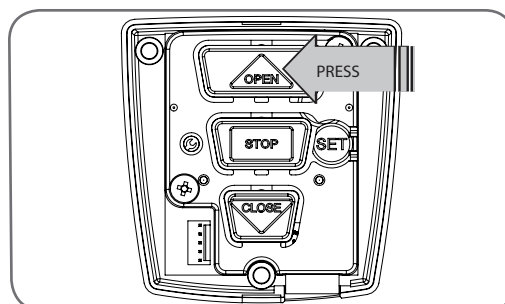

Fig 10.2
- Press and hold the OPEN button (**Fig. 10.2**) to open the shutter. When the shutter is at the desired open position, release the OPEN button